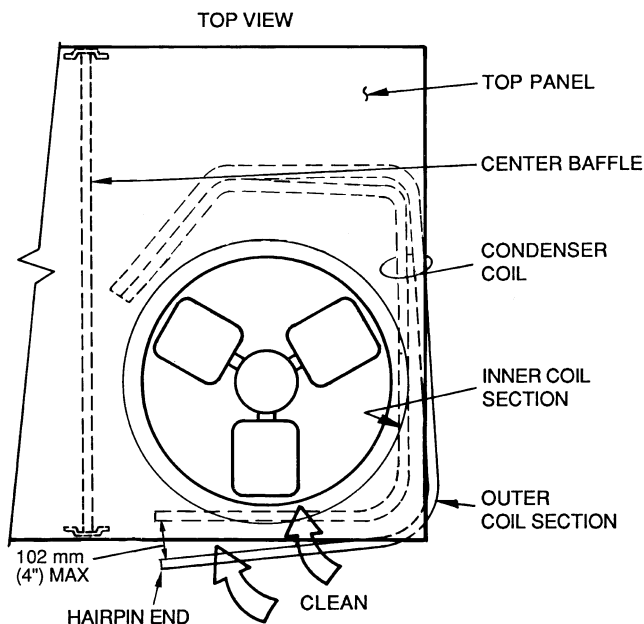

Fig. 38 — Separating Coil Sections
10. Carefully separate the outer coil section 3 to 4 in. from the inner coil section. See Fig. 38.